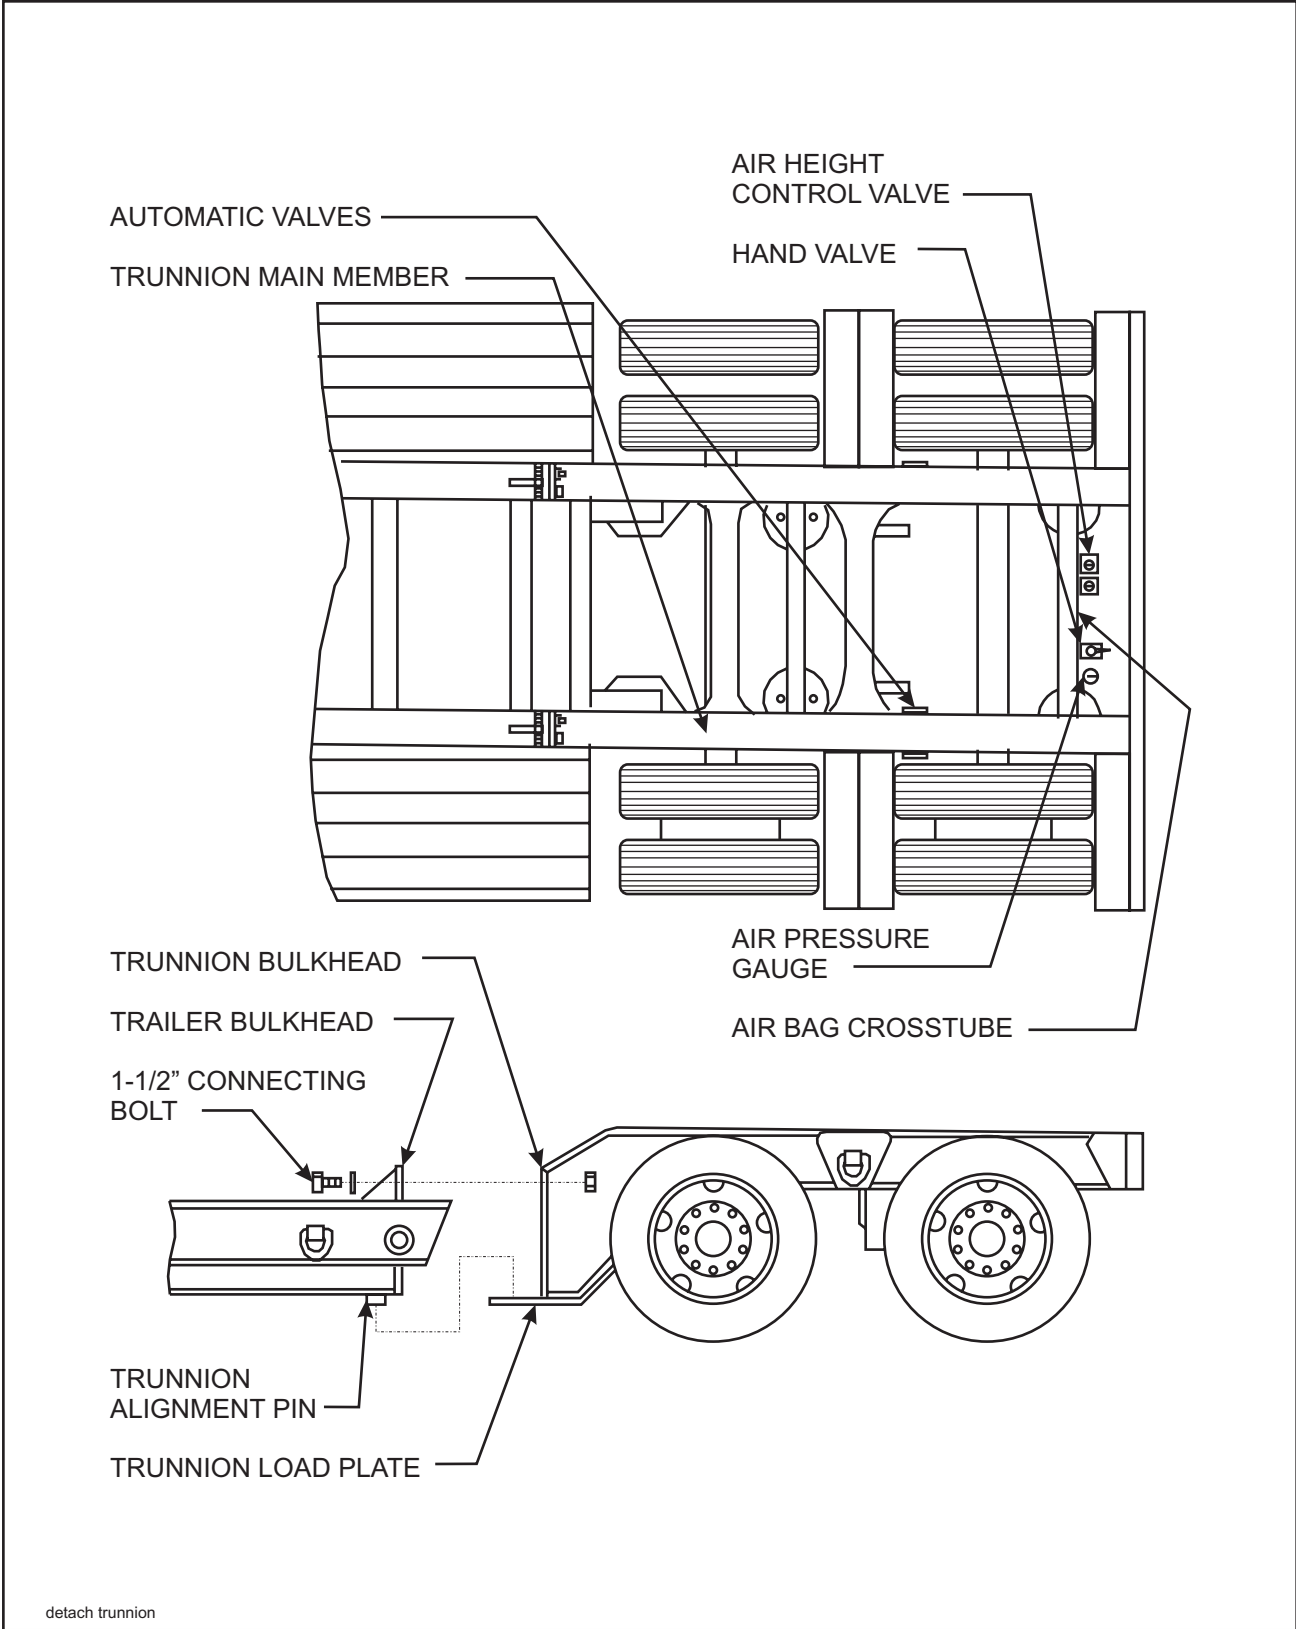

Figure 3-10 Detachable Trunnion
- Remove the four connecting bolts from the semitrailer and trunnion bulkheads (**See Figure 3-10**). Use a crane, hoist, or other suitable lifting device to slightly lift the back of the semitrailer bed if necessary, to provide relief on the bolts, allowing them to be removed.
- Lower the semitrailer bed until the trunnion alignment pins are inserted into the trunnion load plates (**See Figure 3-10**).